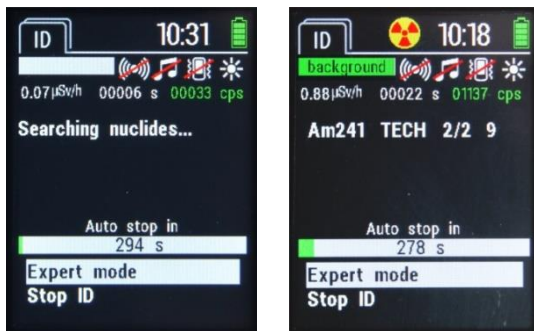

Figure 9 – Radionuclides identification process
To start the process of identification of radionuclides, go to "**Start identification**", and the screen below will open (Fig. 9):
– exits the expert mode and goes to the identification screen (Fig. 9).